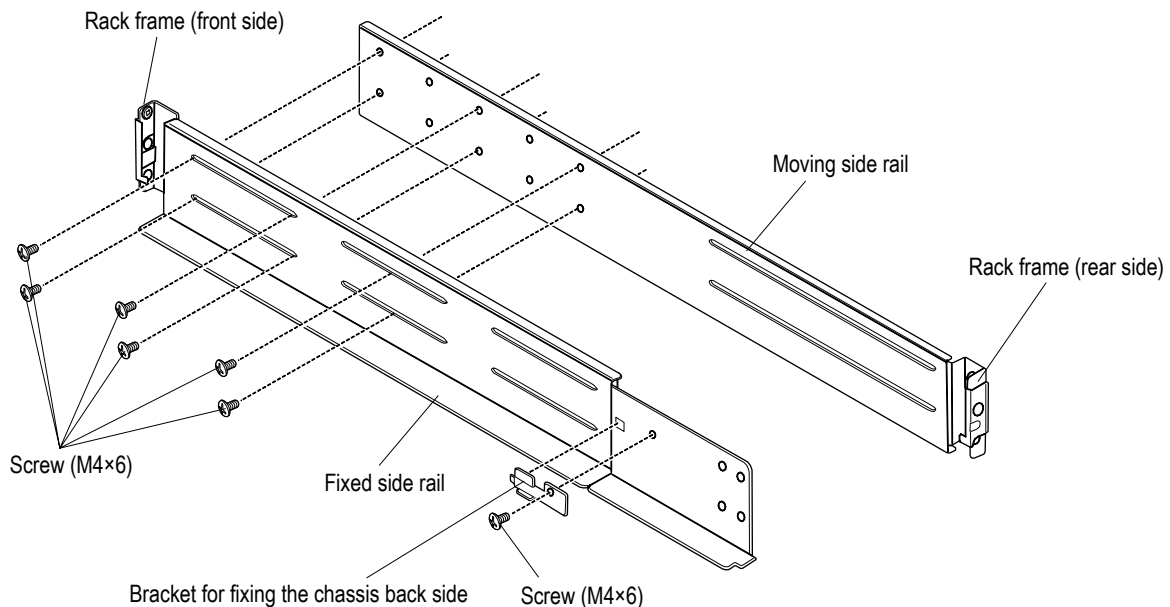

Figure 2.2.22 Installing Rack Rails (Circular Hole) for Drive Box (2U)-1
- (i) Fix the fixed side rail (R) and moving side rail (R) temporarily with six screws (M4×6). (See Figure 2.2.22.)